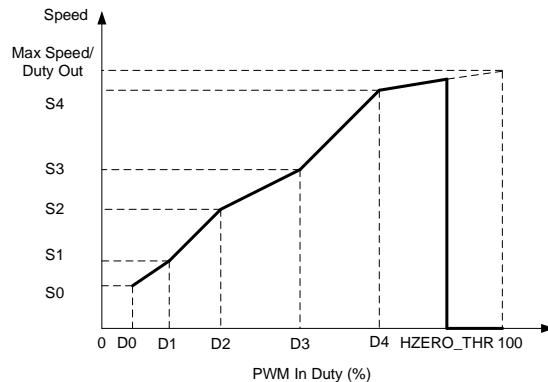

Figure 6: Curve Configuration (SPD_HZERO = 1)
- If $SPD_HZERO = 1$, the speed is at 0 (see Figure 6).